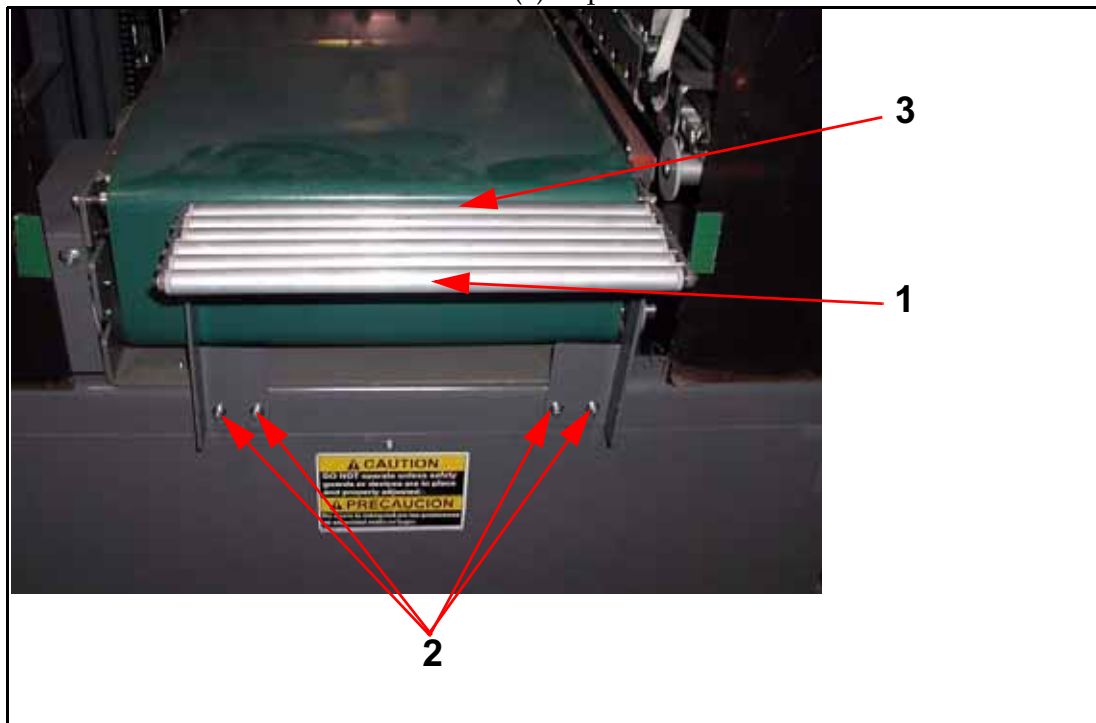

Figure 4-12. Transfer Roller Assembly
15 Mount transfer roller assembly (1 in Figure 4-12) with screws (2).